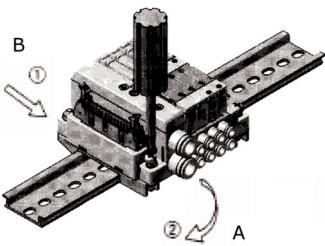

Figure 6
- Mounting procedure (see Figure 6):